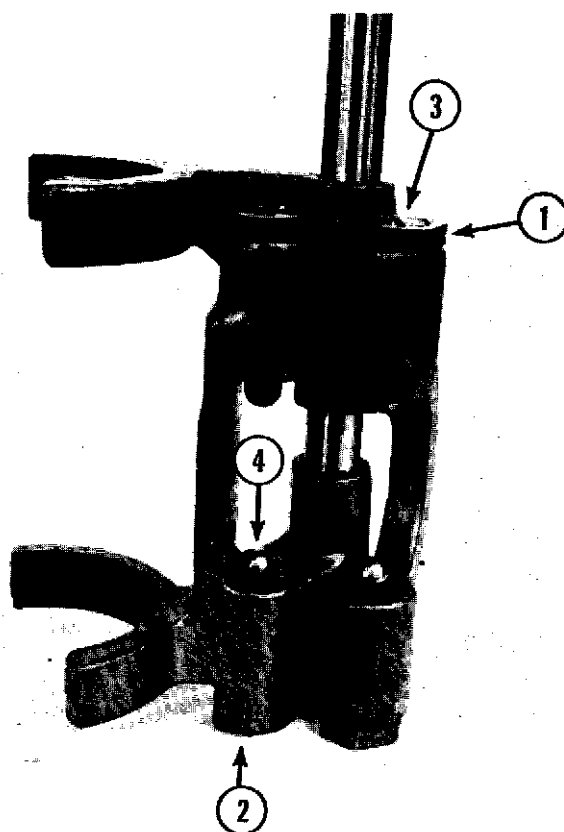

Fig. 11-19
- A. Loosen the locknut (1, Fig. 11-19). [Remove the cotter pin (2, Fig. 11-19) on bottom of lower yoke.]
- B. Adjust the screw (3, Fig. 11-19) so the total movement of the plunger (4, Fig. 11-19) is between $1/4"$ to $7/32"$ and tighten the locknut or replace the cotter pin.